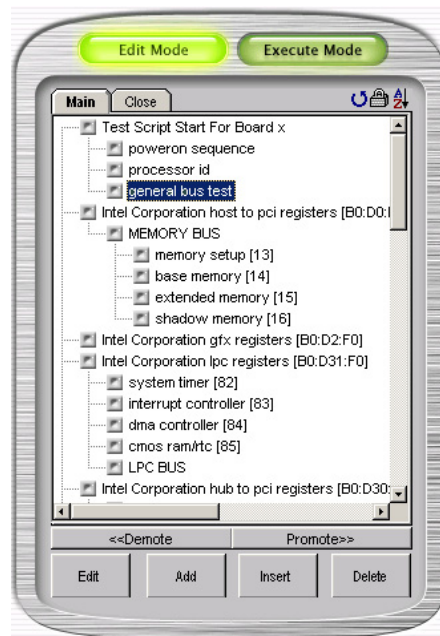

Fig. 4 – PCT’s Test Script window.
4. After some seconds, the ATG will have created a test script, and this will be displayed in the Test Script window (fig. 4).
- a. Select a test in the Test Script window (fig. 4), above or below which the new test should be added.